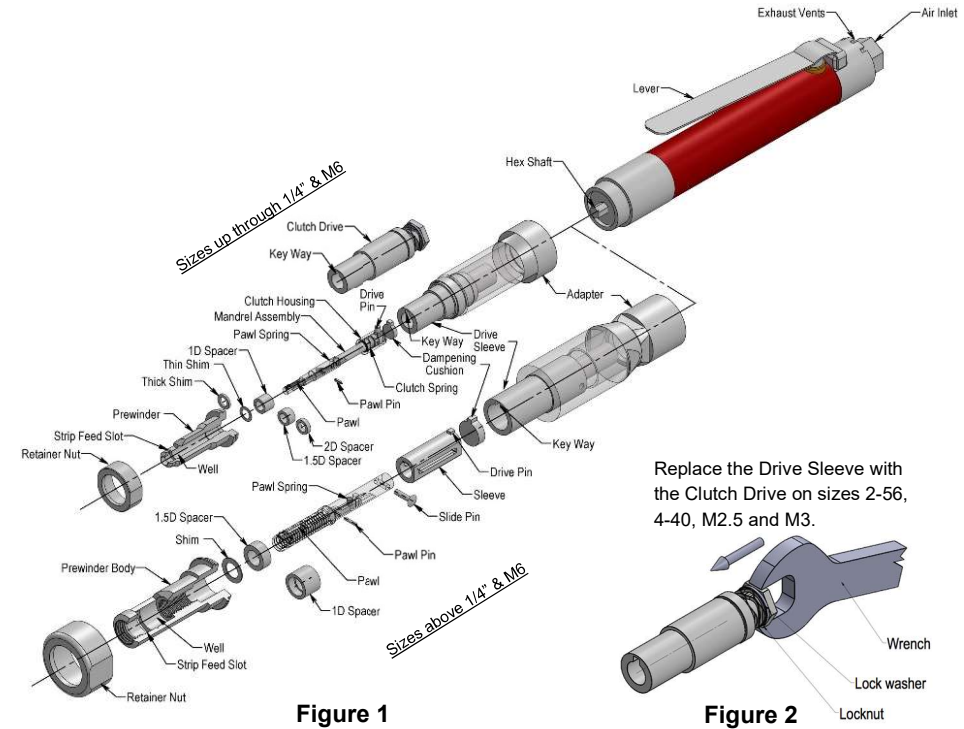

Figure 1
- If you are installing Tangless CoilThread inserts sizes 2-56, 4-40, M2.5, or M3, please replace the standard Drive Sleeve with the Clutch Drive (mandatory for these sizes), see Figure 1.
- 3 Plastic Dampening Cushions. (see Figure 1)
- 3 Slide Pins for sizes above 1/4" or M6, (see Figure 1)